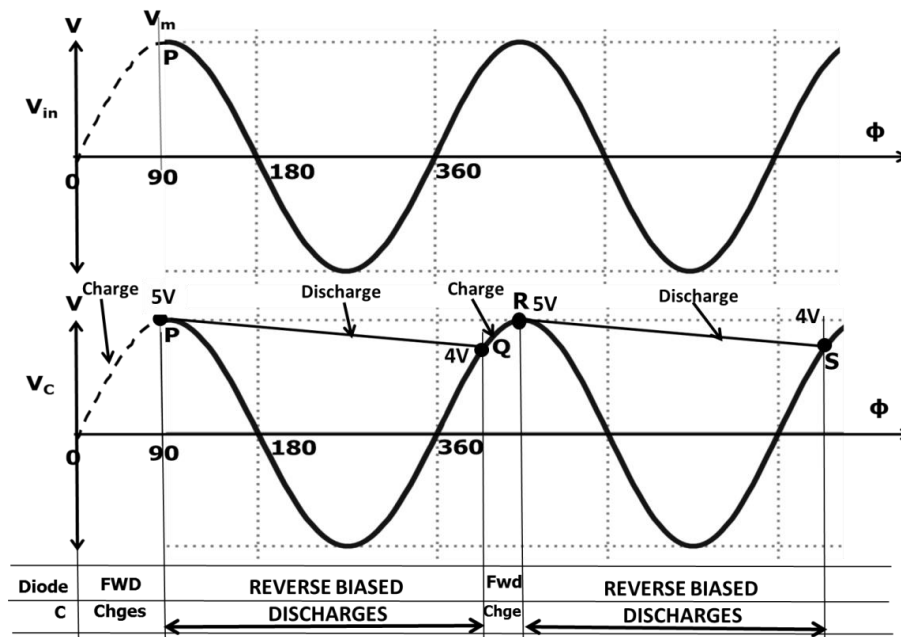

Fig 2.39 HWR Capacitor filter action (2 cycles)
- Refer fig 2.39. The capacitor slowly discharges from its 5 V, through the resistor R_L . The rate of discharge is determined by the time constant $R_L C$. Greater the time constant, slower will be the discharge.